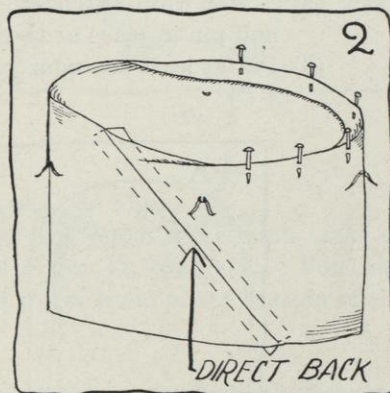

FIG. 2.
- (1) Divide the side crown in quarters, starting with the center of the bias seam as the direct back, and put a pin at each quarter about $\frac{1}{2}$ inch in from one edge of the bias. Be sure the bias seam is opened out flat.
- (2) Put a white stitch directly over each pin and then remove the pins (see Figure 2).
- (3) Turn $\frac{1}{4}$ inch of the side crown down against the wrong side, at the edge where the white stitches are, and pin in a few places (see Figure 2).
- (4) Thread a fine needle with buttonhole twist, the color of the material, and put a knot in it.